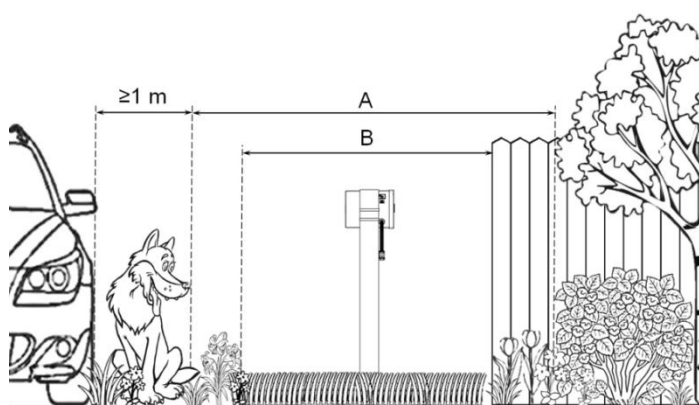

Figure 1.2 – Configuration of the protected site
1.2.2 The parameters of the sensors BARRIER-M (general purpose) correspond to the values given in P. 1.2.1 while meeting the requirements on installation according to Figure 1.2 and Table 1.3.